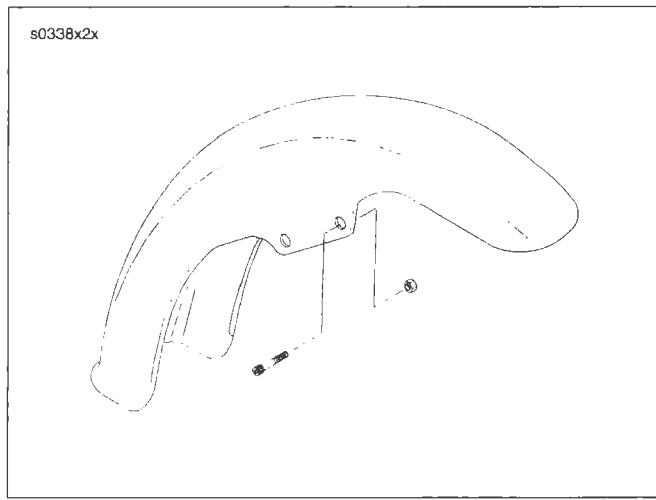

Figure 2-123. Front Fender: FLSTF
2. See Figure 2-123. Remove screws and nuts that hold fender in place and remove fender.
1. See Figure 2-123. Put fender in position and install screws and nuts. Tighten nuts to 15-21 ft-lbs (20.3-28.5 Nm).